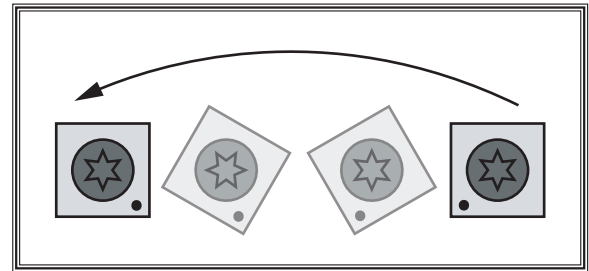

Figure 23. Insert rotating sequence.
8. Rotate insert 90° counterclockwise and install so the fresh cutting edge faces outward (see **Figure 23**).